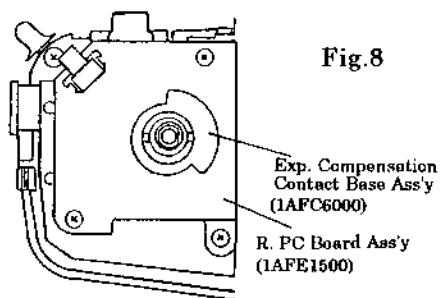

Fig.8
- 1) Install the Exp. Compensation Contact Base Ass'y (1AFC6000) in the position as shown in Fig. 8.